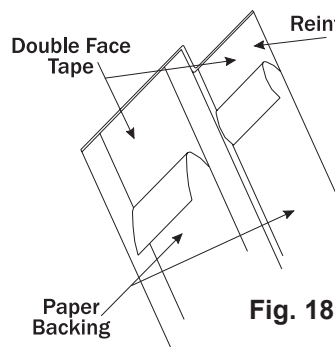
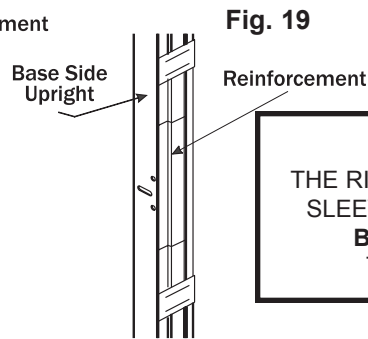

Fig. 18
Fig. 19
- 2 Expose double face tape by removing paper backing on two strips of tape (Fig. 18) and press into position to secure the sleeve to the frame (Fig. 19).